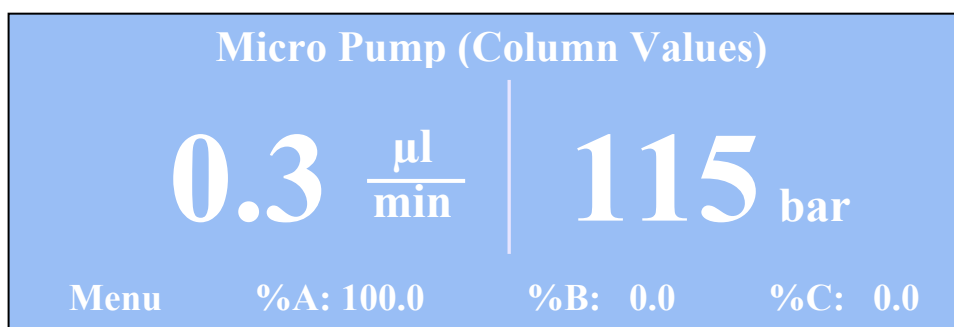
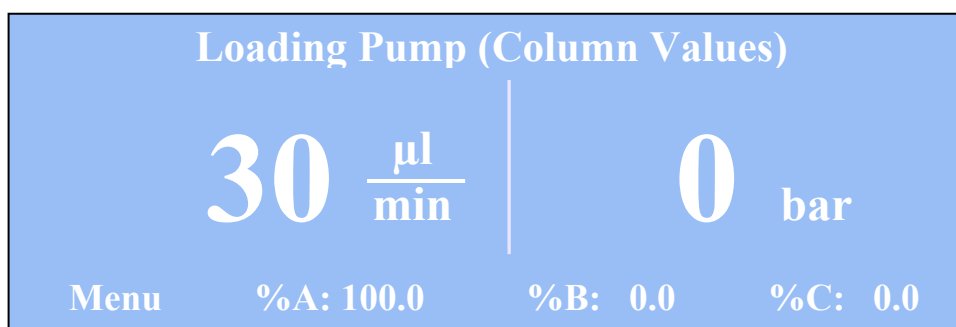

Fig. 20: MicroPump (Column Values) display
Fig. 22: LoadingPump (Column Values) display
- **Column** takes you to the display with the column values for the left pump according to DisplayMode = Left\_Column (→ Fig. 20, page 39) or for the right pump according to DisplayMode = Right\_Column (→ Fig. 22, page 40).